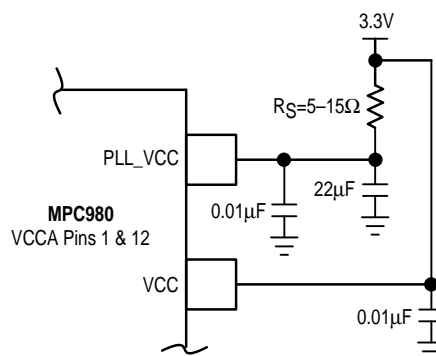

Figure 3. Power Supply Filter
1. The filter recommended for the analog power pins is found in Figure 3 in the Applications Information section on page 5.
Figure 3 illustrates a typical power supply filter scheme. The MPC980 is most susceptible to noise with spectral content in the 1KHz to 1MHz range. Therefore the filter should be designed to target this range. The key parameter that needs to be met in the final filter design is the DC voltage drop that will be seen between the V_{CC} supply and the VCCA pin of the MPC980. From the data sheet the I_{VCCA} current (the current sourced per VCCA pin) is typically 15mA (20mA maximum), assuming that a minimum of 3.0V must be maintained on the VCCA pin very little DC voltage drop can be tolerated when a 3.3V V_{CC} supply is used. The resistor shown in Figure 3 must have a resistance of 10–15Ω to meet the voltage drop criteria. The RC filter pictured will provide a broadband filter with approximately 100:1 attenuation for